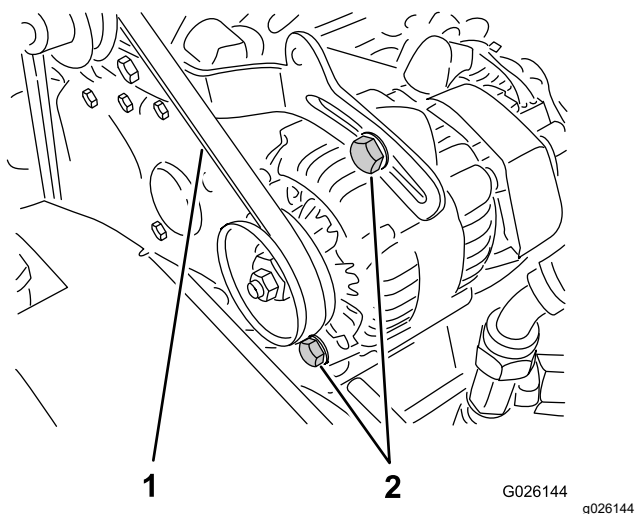

Figure 60
2. Check the tension by pressing the belt at mid span between the crankshaft and alternator pulleys with 10 kg (22 lb) of force (Figure 60).
- A. Loosen the 2 alternator-mounting bolts (Figure 60).
- B. Using a pry bar, rotate the alternator until the proper belt tension is attained, then tighten the mounting bolts (Figure 60).